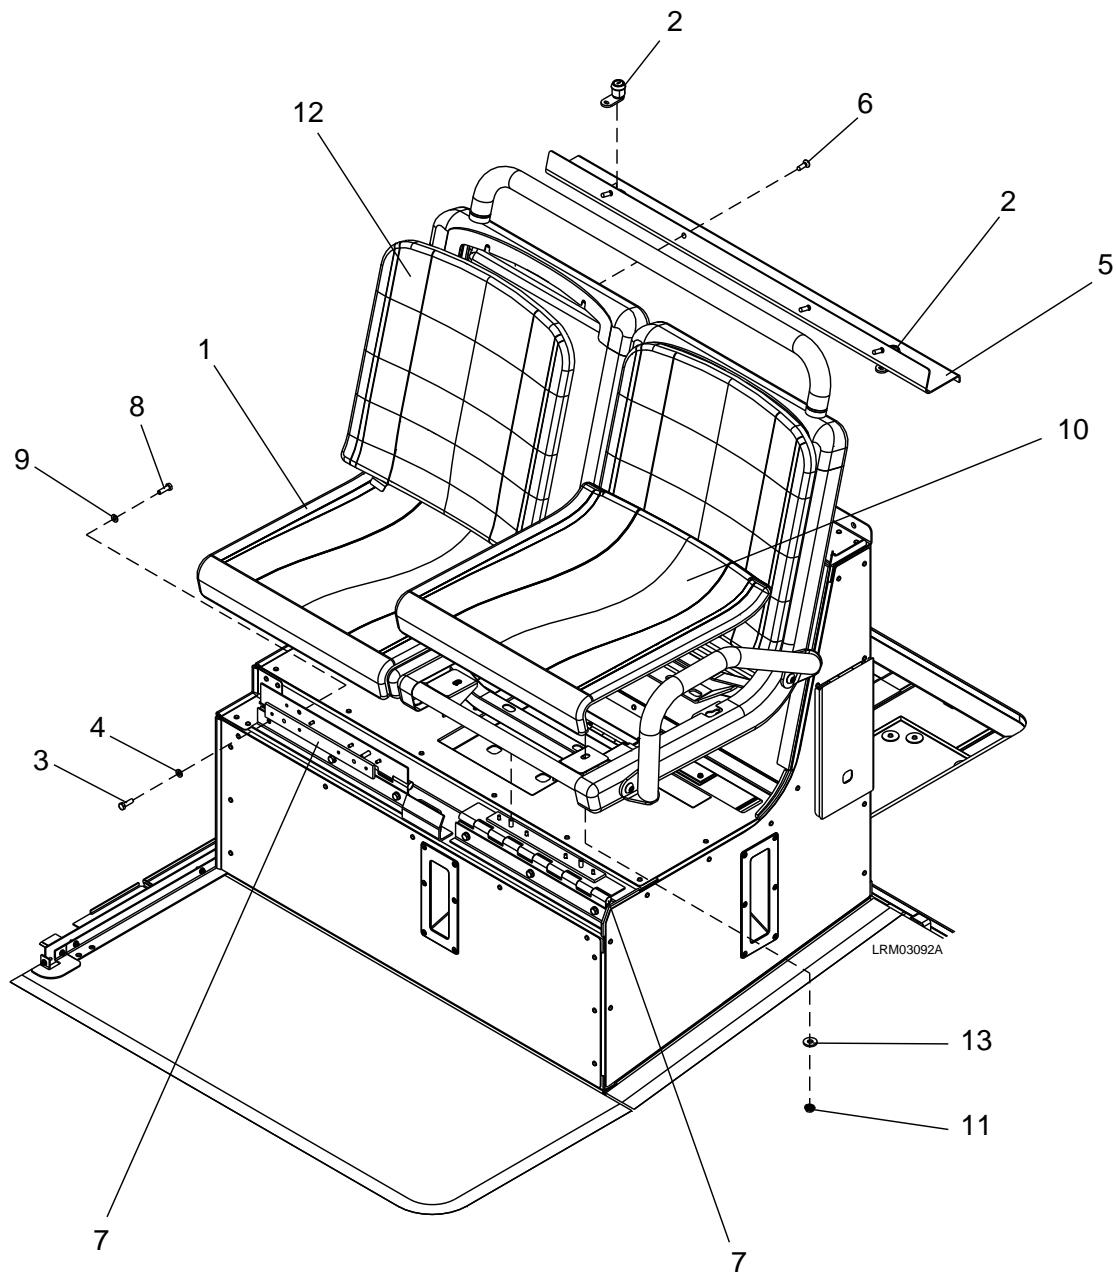

Figure 7-97: 2P LH & RH Sandbox Seat
1. Turn the latches (2) to unlock the seat. See Figure 7-97.
2. Remove the six M6 x 20 bolts (3) and M6 lock washers (4).
3. Carefully remove the Seat Assembly (1) to a level area.
4. Remove four M6 x 20 bolts (8) and M6 lock washers (9) and remove the two hinges (7).
5. Remove four M6 x 20 screws (6). Remove the bracket (4) from the Seat Assembly (1).
1. Remove four lock nuts (11) and flat washers (13) from the cushion assemblies (10). See Figure 7-97.
2. Remove the cushion assemblies (10).
3. Lift the front of the bottom seat cushion (10) and pull the cushion forward to release the rear clips.
4. Remove the seatback cushions (12) by pulling down on the cushions to release the seatback cushions from the slots in the seat frame assembly (1). See Figure 7-97.